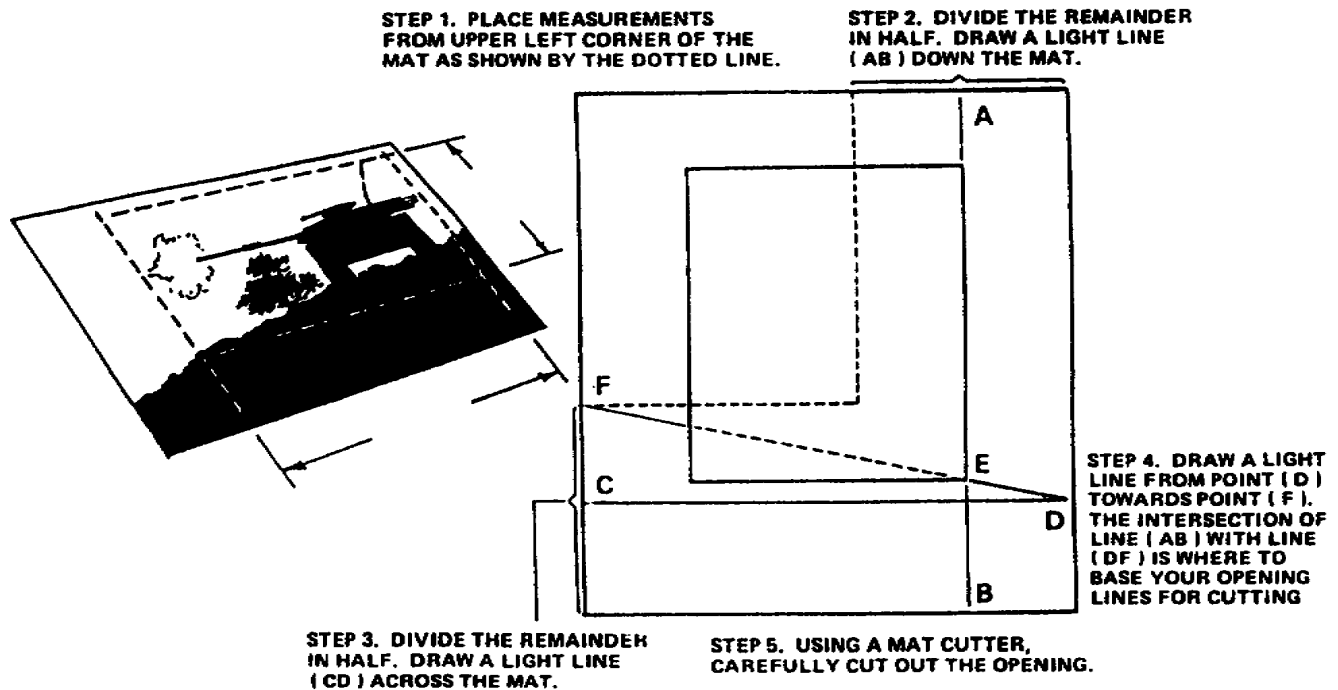

Figure 2-14. Method of optical centering
c. The placement of the print on the mounting board is of utmost importance. Prints mounted at odd angles or in a corner of the mount are not generally acceptable. The prints should be placed on the board in such a manner that the borders on the sides are equal to the top border. For good balance, the bottom border should be about one-third wider than the top and side. See method for optical centering (fig 2-14).